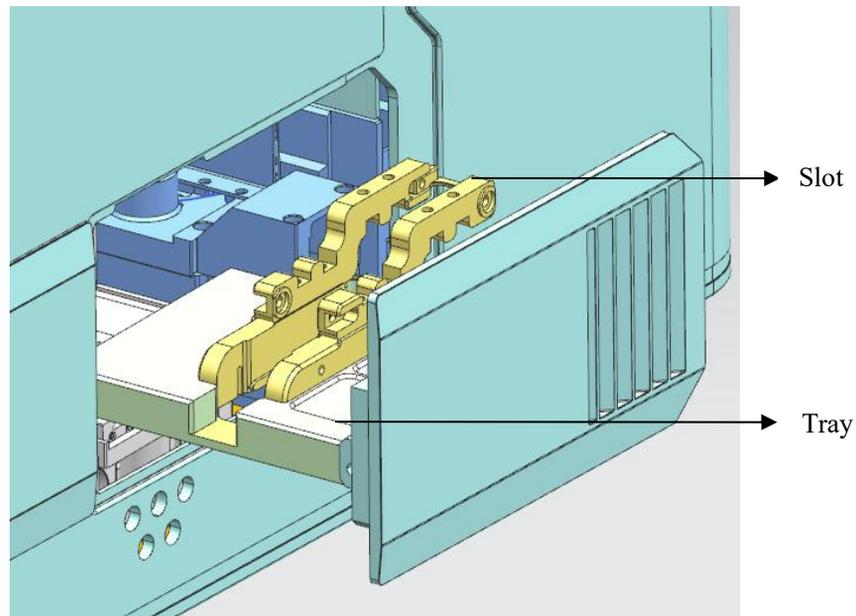

Figure 4-3 Sample Room
- Please ensure the icassette is accurately inserted into the slot of the tray, as shown in figure 4-3.